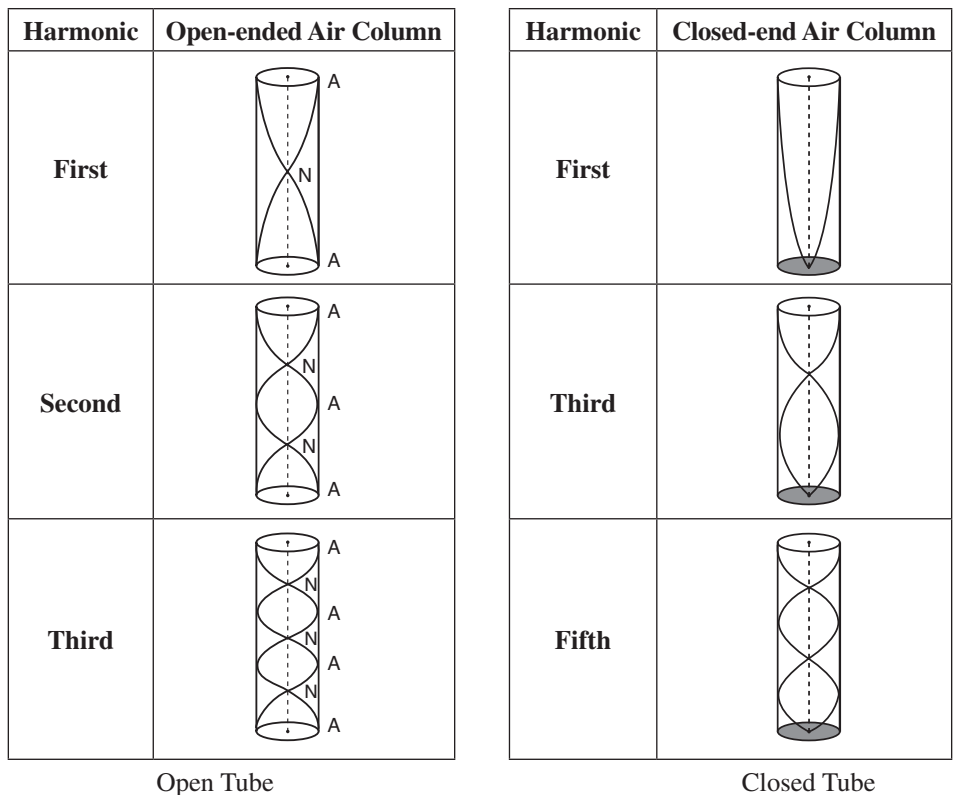

Figure 1.
How does resonance occur? The sound wave in the air column consists of alternating high- and low-pressure variations. The sound wave is ultimately reflected back toward the vibrational source. It is either reflected back off a closed end of the column or as a low-pressure reflection off the open end of the column. If the reflected wave reaches the vibrational source at the same moment another wave is produced, then the incident and reflected waves constructively interfere with each other. A standing wave is produced, creating resonance. A standing wave in a column of air can be represented by a sine wave in either an open tube (open at both ends) or a closed tube (closed at one end). A standing wave in an open tube has an antinode at each end, which is the boundary between the air in the enclosed region of the tube and the air outside the tube. In a closed tube, the closed end acts as a fixed point, which prevents movement, and the reflected wave will be inverted. Therefore, the closed end of the tube will always contain a node (see Figure 1 on page 2). Because the amplitude is largest at an antinode, the sound is the loudest at this point.
3. Using Figure 1 from the *Background* section as a guide, complete the charts below for each harmonic of an air column in open and closed tubes, respectively, where L is the length of the tube. The first harmonic has been completed.